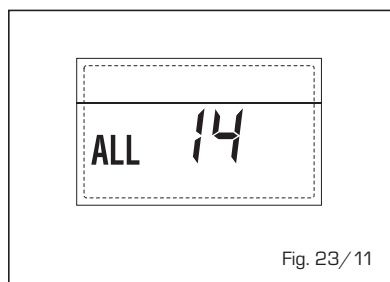

Fig. 23/11
– **ANOMALÍA DEL VENTILADOR “ALL 15” (fig. 23/12)**